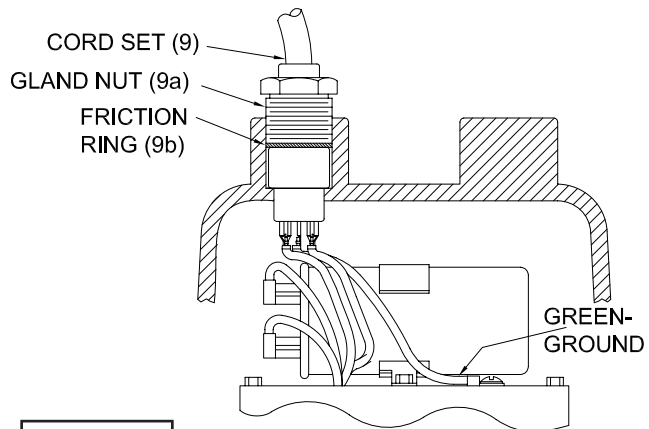

FIGURE 5
Motor - To examine or replace the motor (1) or bearing (4), remove body and impeller as per section F-2.1. Drain oil from motor housing as per section F-1.2. Remove gland nut (9a) and friction ring (9b) from motor housing (14). Pull cord through opening and disconnect the motor wires from the terminals on cable (9), see Figure 5. Remove socket head screws (15) and lift motor housing (14) from seal plate (2). Remove o-ring (13) and inspect for breaks. Loosen motor screws and pull motor (1) straight up and off seal plate (2). Inspect all parts for signs of wear and check motor resistance values.
Slip motor wires through opening in motor housing (14) see Figure 5. Connect motor wires to cord set as per Figure 6. Place friction ring (9b) and gland nut (9a) into motor housing (14) and tighten gland nut to 17.5 ft. lbs. Place motor housing (14) squarely onto seal plate (2). Tighten socket head screws (15) into motor housing. Refill with cooling oil as per paragraph F-1.3.